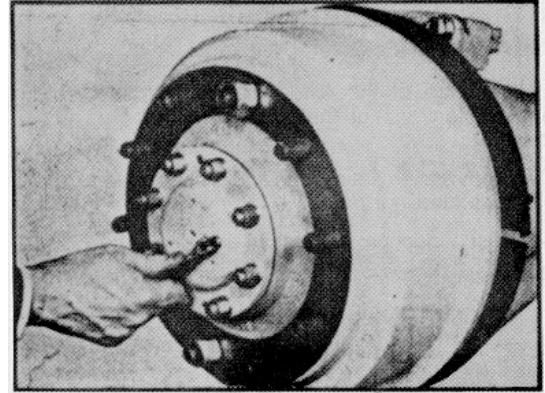

Fig. 41
7. On oil lubricated wheel bearing, turn wheel hub to position the oil plug hole in the outer axle shaft horizontally. (See fig. 41). Fill hub with specified oil, install plug.